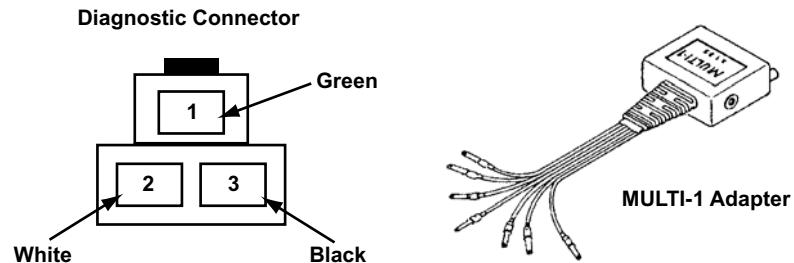
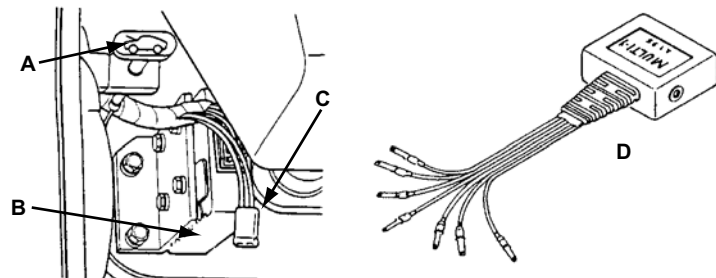

Figure 10-7 1984–95 Pickup 1988–95 Amigo, and 1991–95 Rodeo connector and adapter
Figure 10-8 1988–91 Trooper with automatic transmission connector location
- Connect the MULTI-1 adapter with the white terminal converters (Figure 10-7 and Figure 10-8).